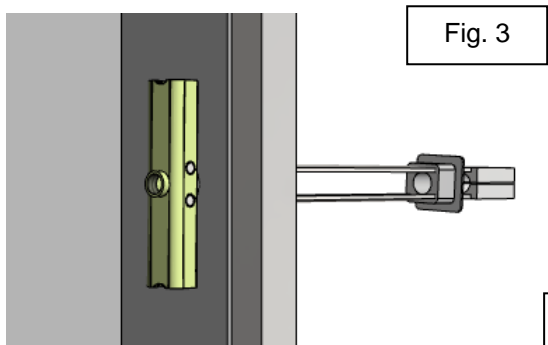

Fig. 3
3. Toggle should be through center of steel edge flange. Fig. 3